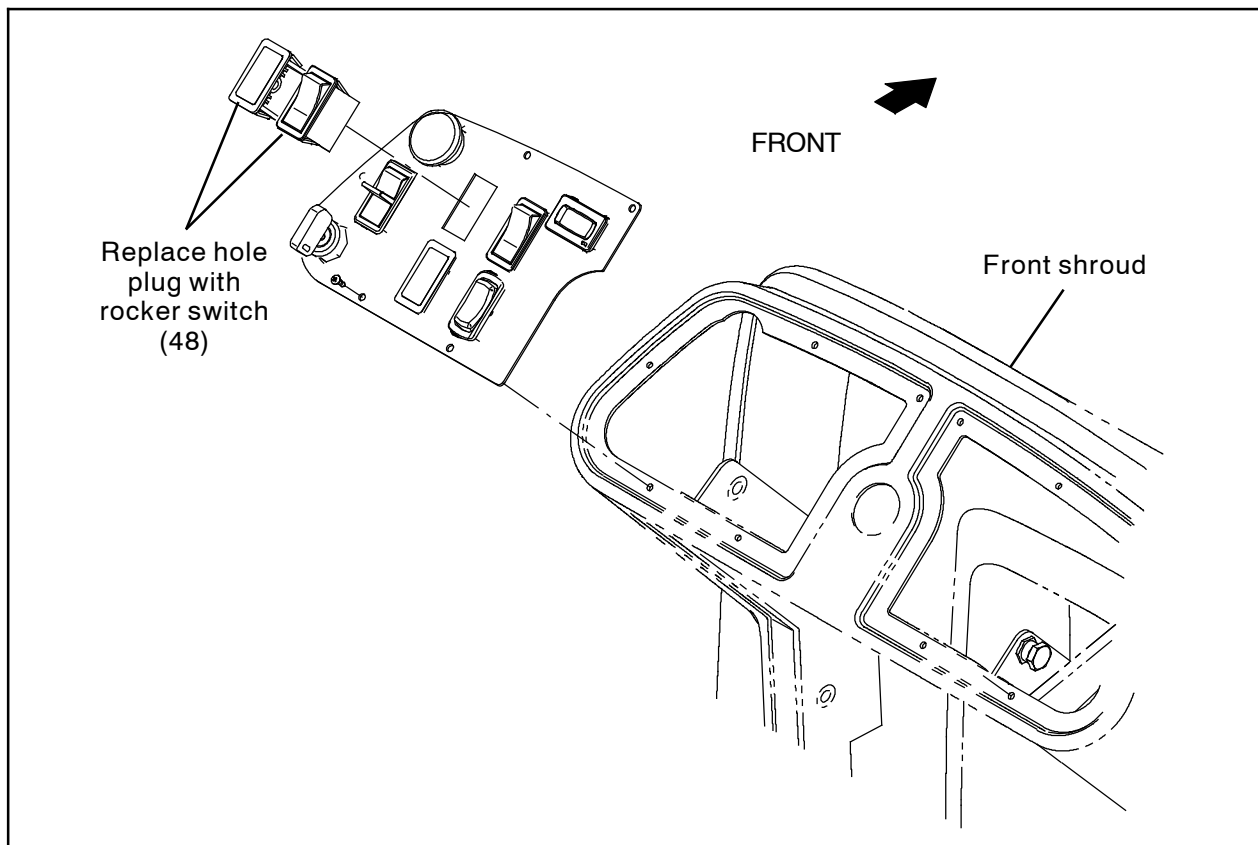

FIG. 10
22. Remove the hardware securing the control panel to the front shroud and carefully lift the control panel from the shroud. Do not break any wire or cable connections when lifting the panel from the shroud. (Fig. 10)
23. Remove the hole plug from the location where the rocker switch (48) is to be installed on the control panel. Discard the plug. (Fig. 10)
24. Insert the rocker switch (48) into the control panel. (Fig. 10)
25. Connect the main wire harness to the rocker switch (48). (Fig. 10/Fig. 13)
26. Reinstall the control panel onto the front shroud. (Fig. 10)